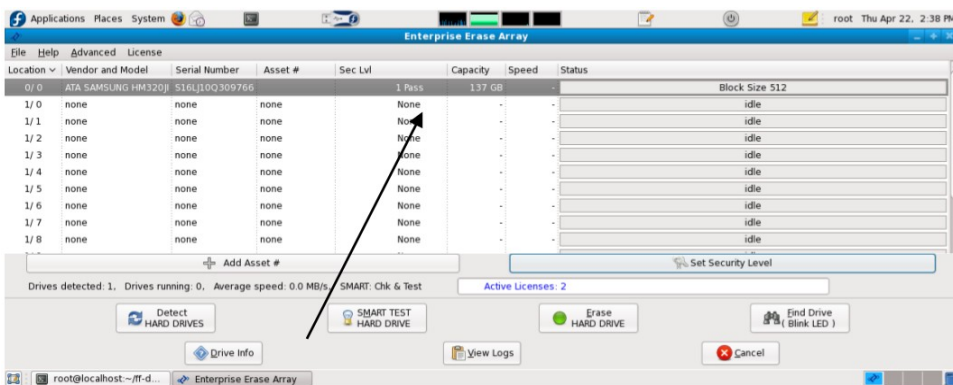

Figure 3.3 – User Interface Screen with Drive Highlighted
3.4 To begin the erasure process, first highlight the drive you would like to erase on the list of devices on the user interface screen. Figure 3.3 below shows a highlighted drive as it would appear on the screen: